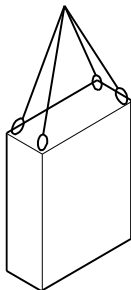

Fig. 20
1. Fasten ropes, belts or multi-point tackle as shown in Fig. 20.